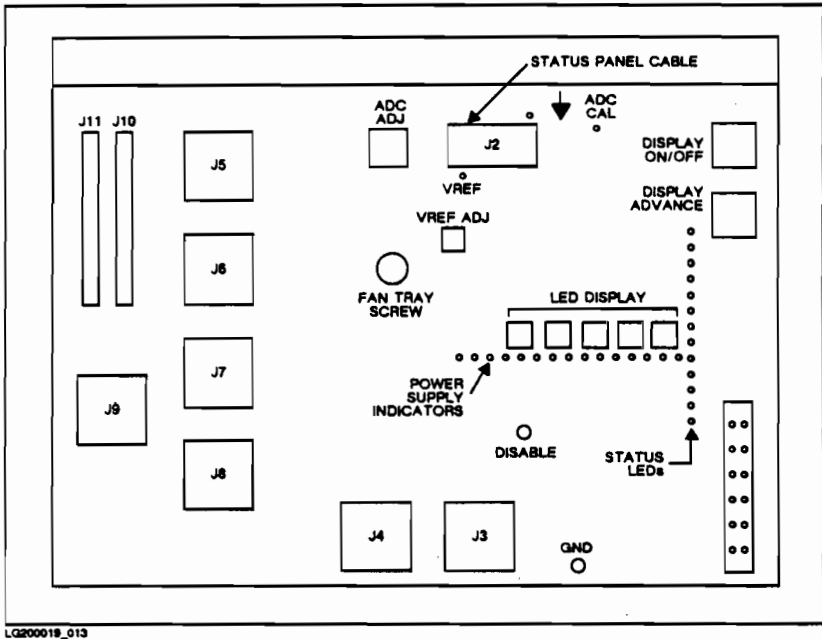

Figure 6-5. Power System Controller (PSC) Layout
1. Measure the voltage between VREF and ground terminals on the PSC. (See Figure 6-5.) Adjust the VREF ADJ potentiometer to +5.12V. This sets an internal reference voltage on the PSC.
2. Ground ADC CAL. on the PSC. (See Figure 6-5.) The PSC LED display should show two digits. Adjust the ADC ADJ potentiometer so that the LED display toggles between 00 and 01. This adjustment increases the accuracy of the PSC LED display.
- a. Disable the "DC UV/OV" detection circuitry by installing a jumper from the "UV/OV Disable" terminal on the PSC PCA (located above and to the right of J3) to a ground terminal on the PSC. See Figure 6-5.